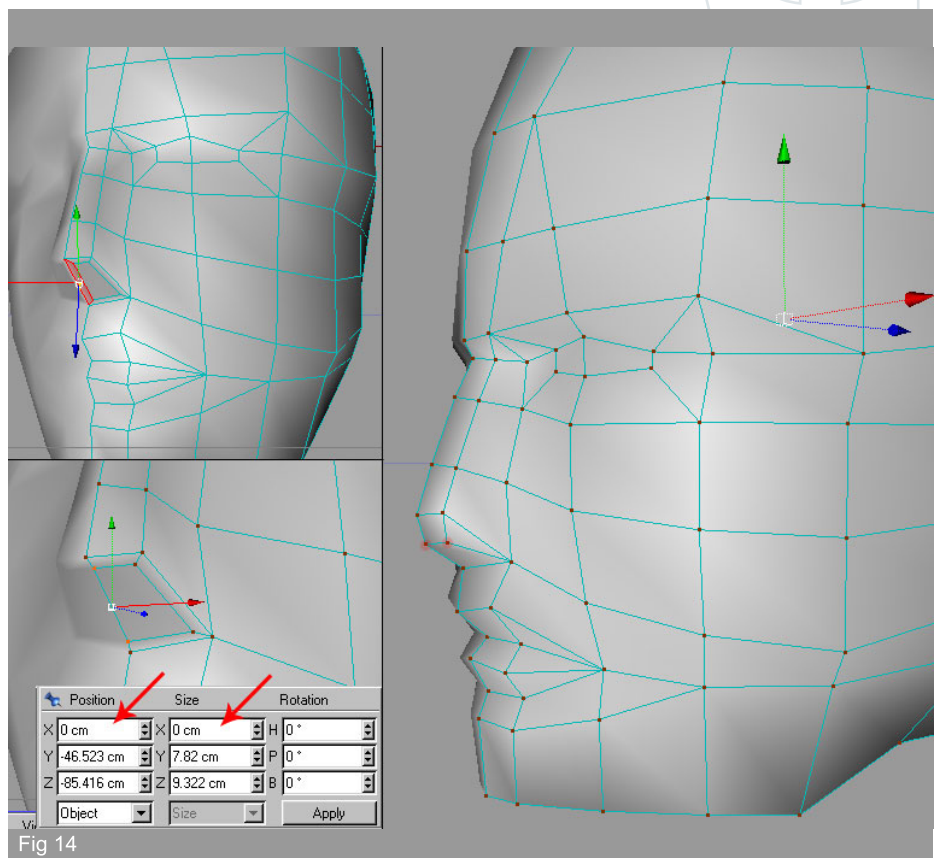

Fig 14
14. Still working on the nose, select the polygon as shown in fig 14 and delete it. Move the points at the coordinates 0 (bottom left) and finally weld the bottom vertices of the nose and adjust the mesh as shown on the right.